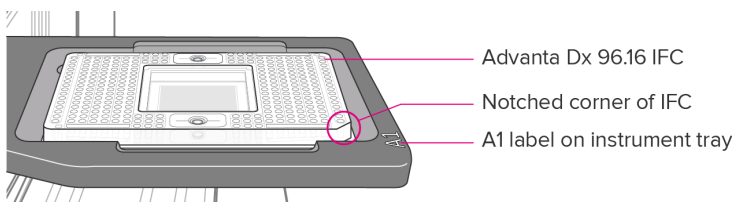

Figure 14. Loaded IFC on instrument tray
- 2 Use clear tape to remove any dust particles or debris from the surface of the IFC center, if necessary. Ensure that the waste sponge stays in place (Figure 14).